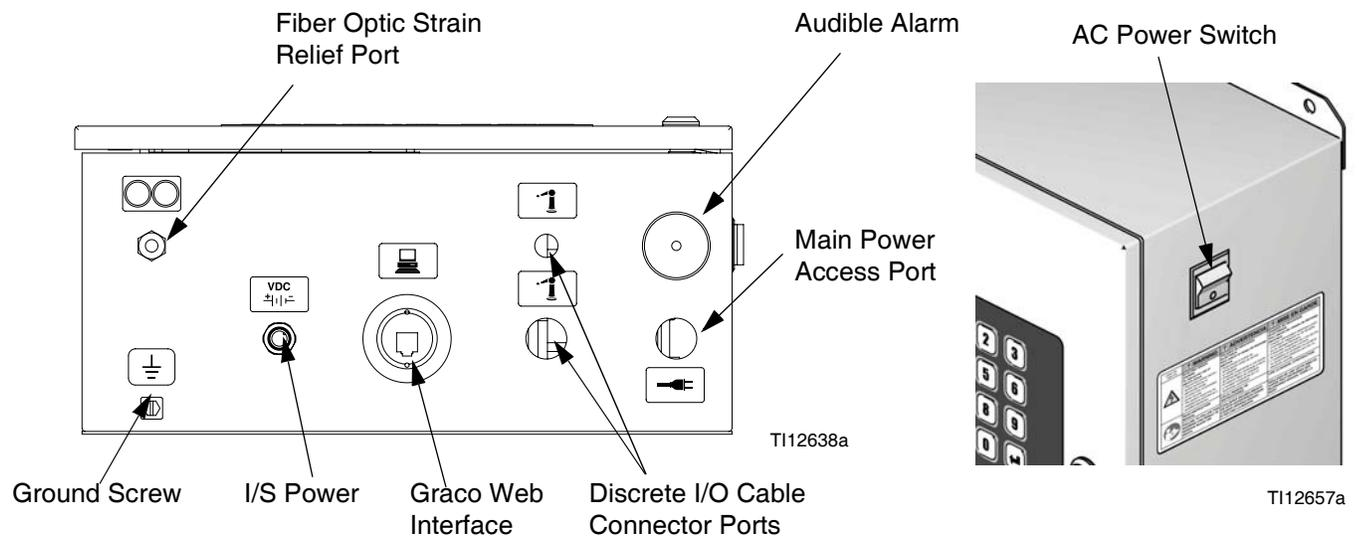

FIG. 13. EasyKey Connections and AC Power Switch
- The input power access port is 22.4 mm (0.88 in.) diameter. It accepts a bulkhead strain relief fitting or conduit. See FIG. 13.
1. Provide power to the EasyKey. Install a bulkhead strain relief or conduit bulkhead through the EasyKey port . See FIG. 13.
1. Connect the appropriate Fluid Station Power Cable end to the EasyKey connector $\begin{matrix} \text{VDC} \\ \pm | | \text{---} \end{matrix}$. See FIG. 13.
3. The Fiber Optic Cable is shipped from the factory attached to the Fluid Station connector . See FIG. 13.